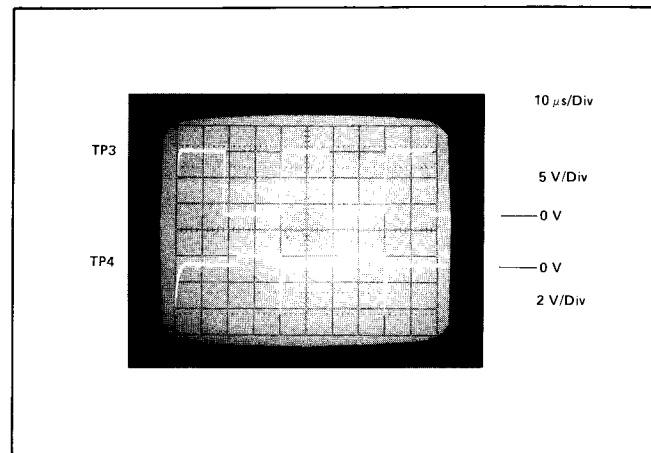

Figure 8-3-6. Waveforms
2. Using a scope and 10:1 probe, measure following signals given in Figures 8-3-6 and 8-3-7.